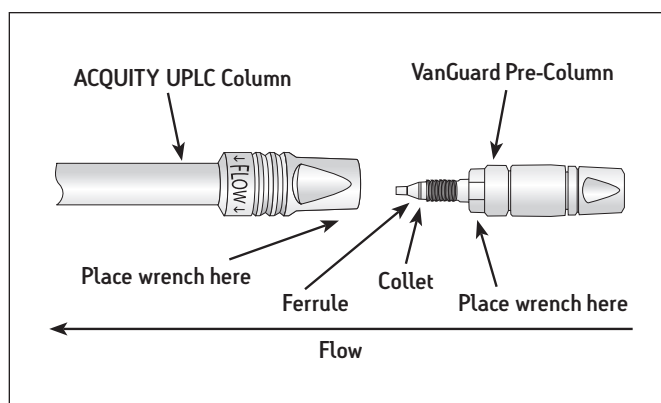

Figure 1. VanGuard Pre-column connection to an ACQUITY UPLC Column.
6. Tighten the connection using two 5/16-inch wrenches placed onto ACQUITY UPLC Column flats and VanGuard Pre-column hex nut (male end) as shown in Figure 1.